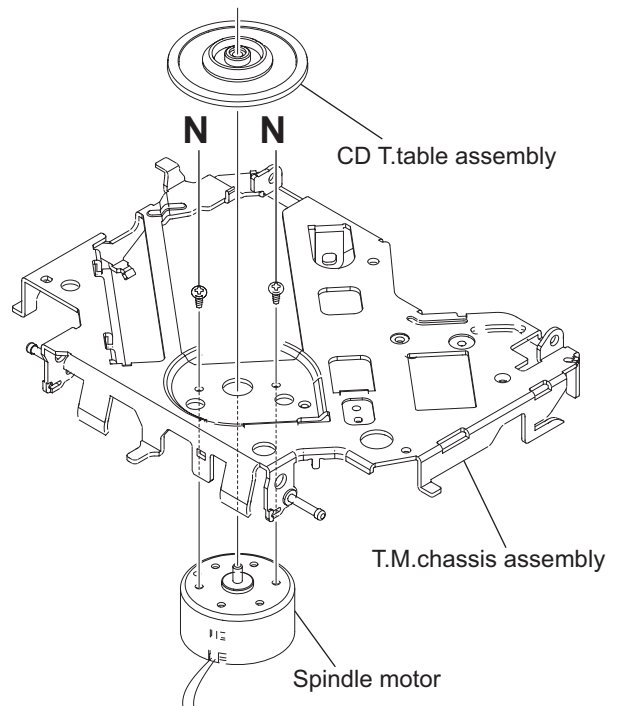

Fig.23
3.2.14 Removing the spindle motor (See Fig.23 and 24)
- From the top side of the T.M chassis assembly, remove the CD T.table assembly from the spindle motor. (See Fig.23.)
- Remove the two screws **N** attaching the spindle motor. (See Fig.23.)
- Take out the spindle motor from the bottom side of the T.M chassis assembly. (See Fig.23.)